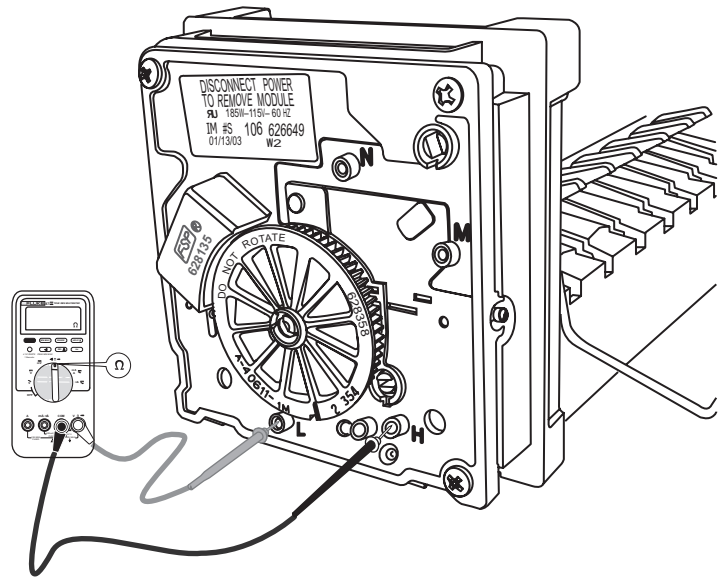

Figure 10-15. —Measuring mold heater resistance.
6. Set the multimeter to AC voltage function, then insert one probe into point N and the other into point M as Figure 10-15 illustrates.